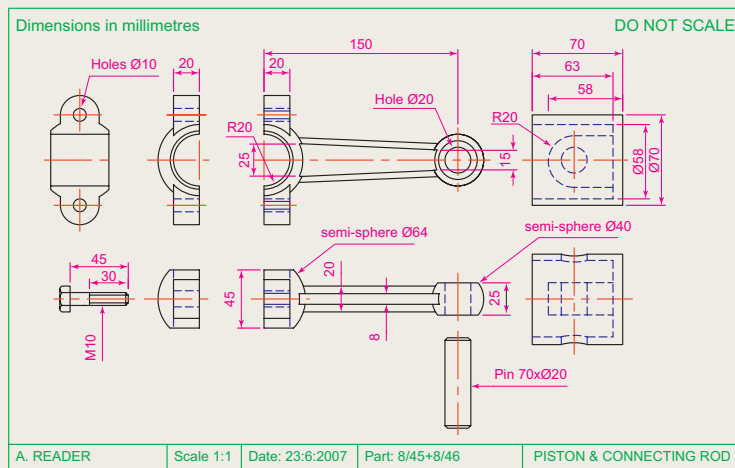

Fig. 11.15 Exercise 1 – exploded orthographic projection
- Fig. 11.15 is an exploded orthographic projection of the parts of a piston and its connecting rod. There are four parts in the assembly. Small drawings of the required sheet set are shown in Fig. 11.17. Construct the drawing in Fig. 11.15 and also the four drawings of its parts. Save each of the drawings in a **Layout1** format and construct the sheet set which contains the five drawings.